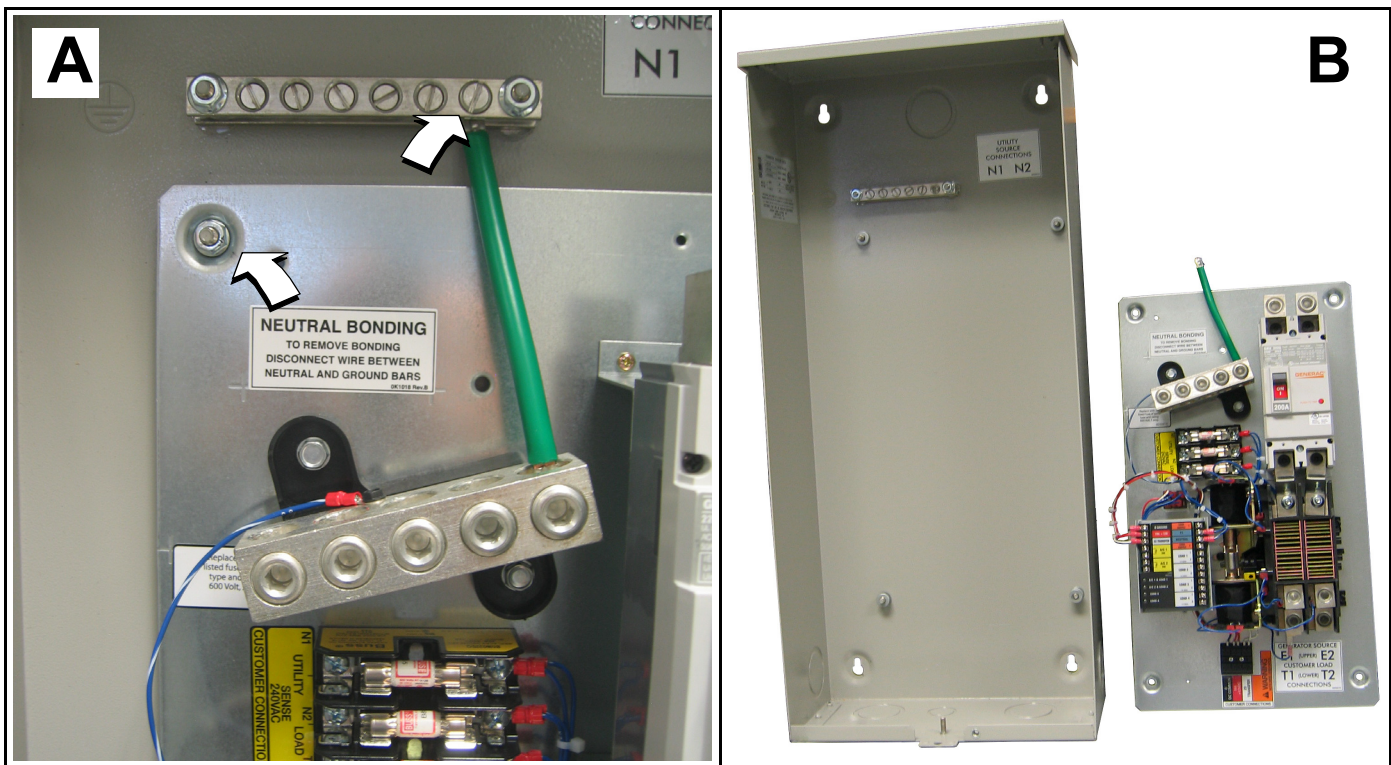

Figure 3-3. Remove Subplate From Enclosure
1. Using a flat blade screwdriver, loosen terminal screw from grounding bar to release green neutral bonding cable. See A of Figure 3-3.
2. Remove flange nuts from weld studs at each corner of subplate. See A of Figure 3-3.
3. Remove subplate with transfer switch assembly from weld studs. See B of Figure 3-3.